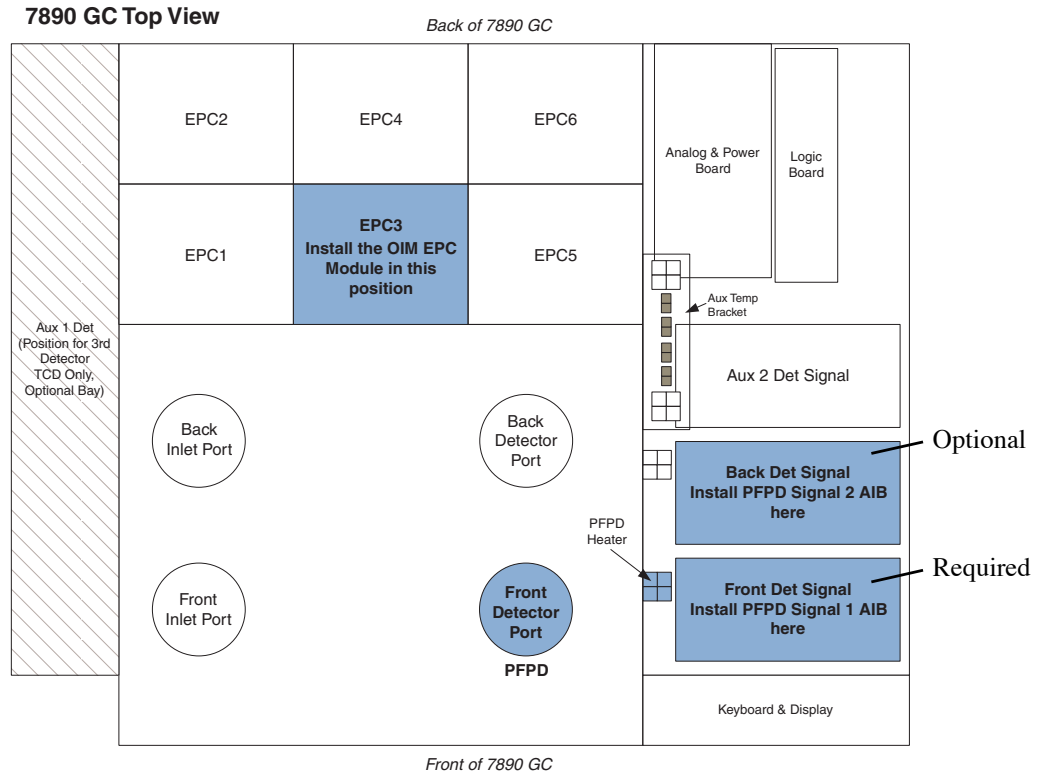
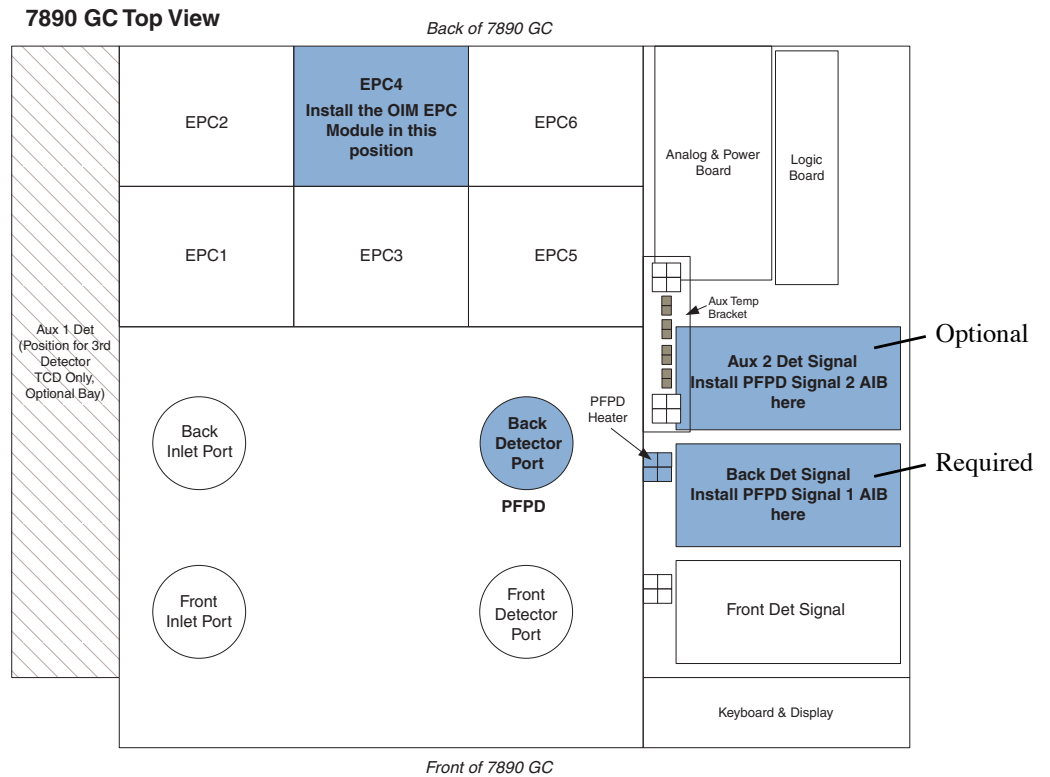
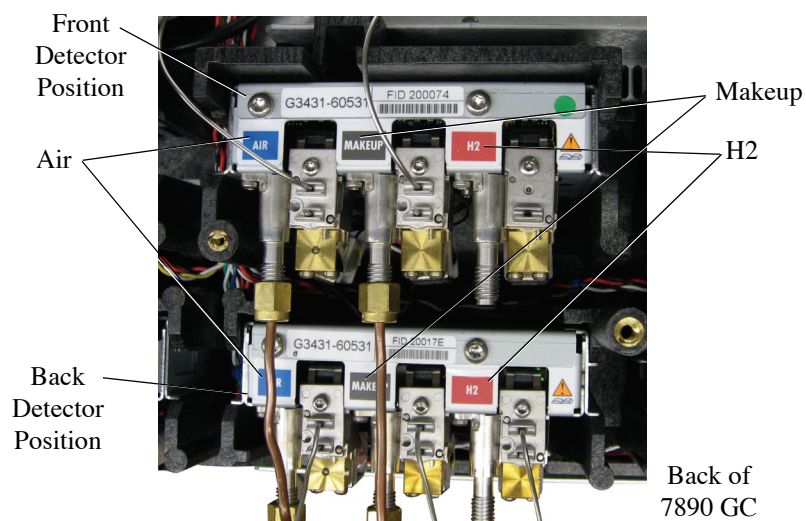

Figure 4.19. Suggested Location for PFPD Components using the Front Detector Position
Figure 4.20. Suggested Location for PFPD Components using the Back Detector Position
Figure 4.22. Front and Back Detector Positions
2. Select the appropriate detector port and flow module position; refer to Figure 4.19 for the normal location or Figure 4.20 for an alternate location.
- b. Locate the correct mounting slot for the EPC module (Figure 4.19 and Figure 4.22).
6. Install the AIB board(s) per the Agilent instructions (see Figure 4.19 on page 51 for placement).
NOTE: The following configuration is for a PFPD installed in the Front Detector position (as shown in Figure 4.19).
1. Determine where the AIB board(s) was installed using Figure 4.19.